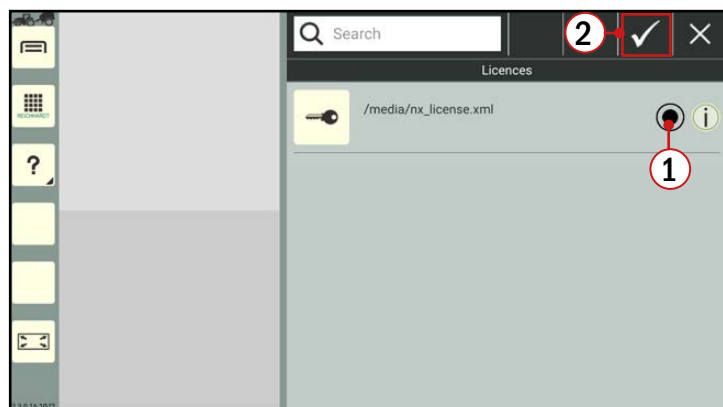

Fig. 168: Selecting and confirming the license file
- Select the license file (1) and confirm the import with the checkmark (2) (see Fig. 168).